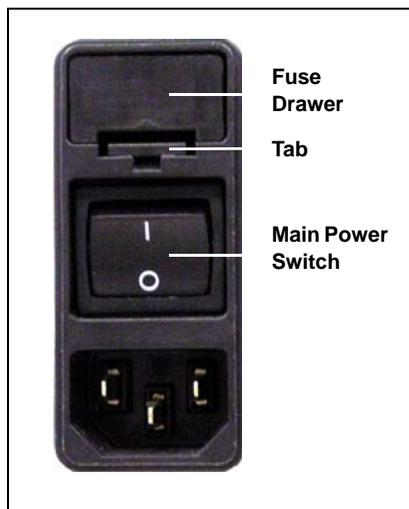

Figure 5-30. Fuse Drawer
2. The fuse drawer is located above the main power switch (see Figure 5-30). A small tab locks the fuse drawer in place. Using a small screwdriver, press the tab *in* and then *up* to release the fuse drawer.